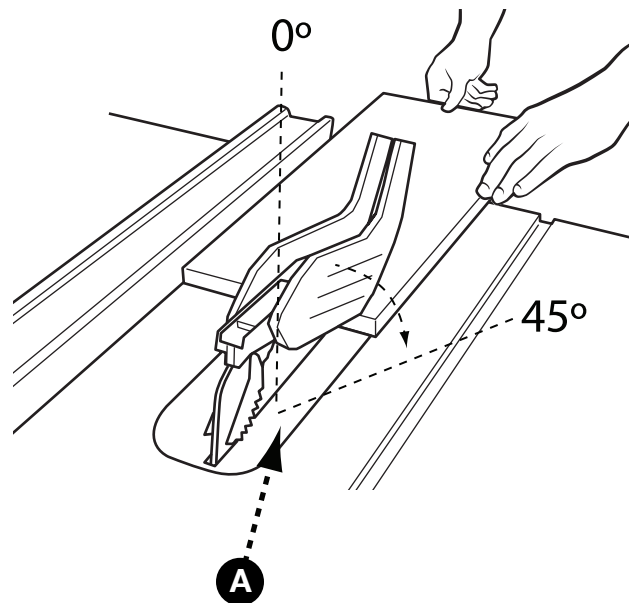

FIGURE 24
Bevel ripping is the same as ripping except the bevel angle (A) is set to an angle other than  $0^{\circ}$ . When making a bevel rip cut, place the fence on the right side of the blade so that the blade is tilted away from the fence and hands.(Fig. 24).